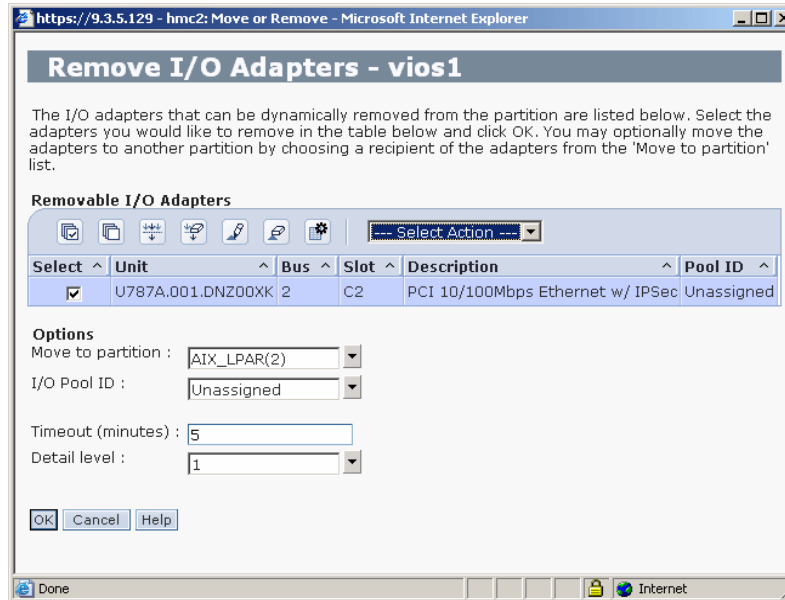

Figure 6-19 Selecting adapter in slot C2 to be moved to partition AIX\_LPAR
2. Select the adapter to be moved and select the receiving partition, as shown in Figure 6-19.